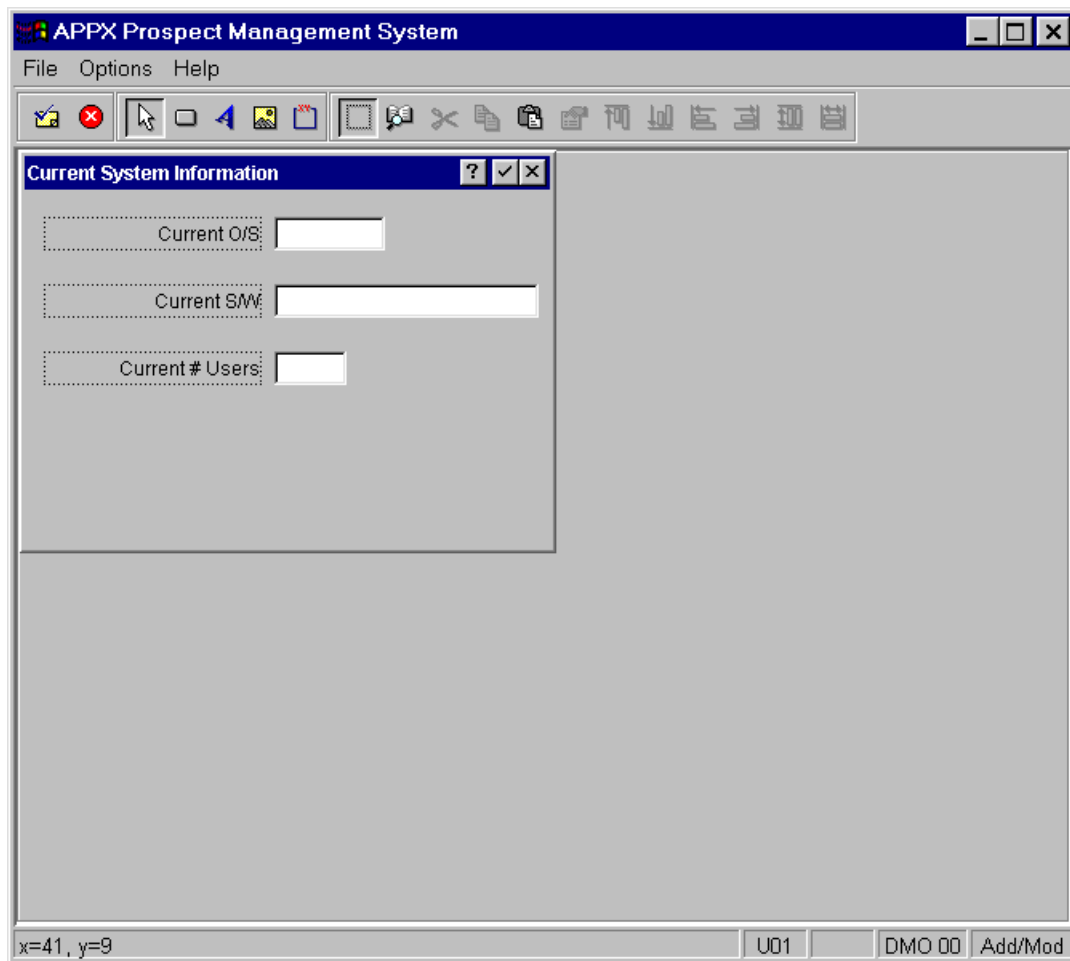

Figure E3.16 – Label & Field Alignment
- Back on your input image, if necessary, click on the labels and fields and drag them to appropriate positions on the image so they are aligned (*Figure E3.16*).